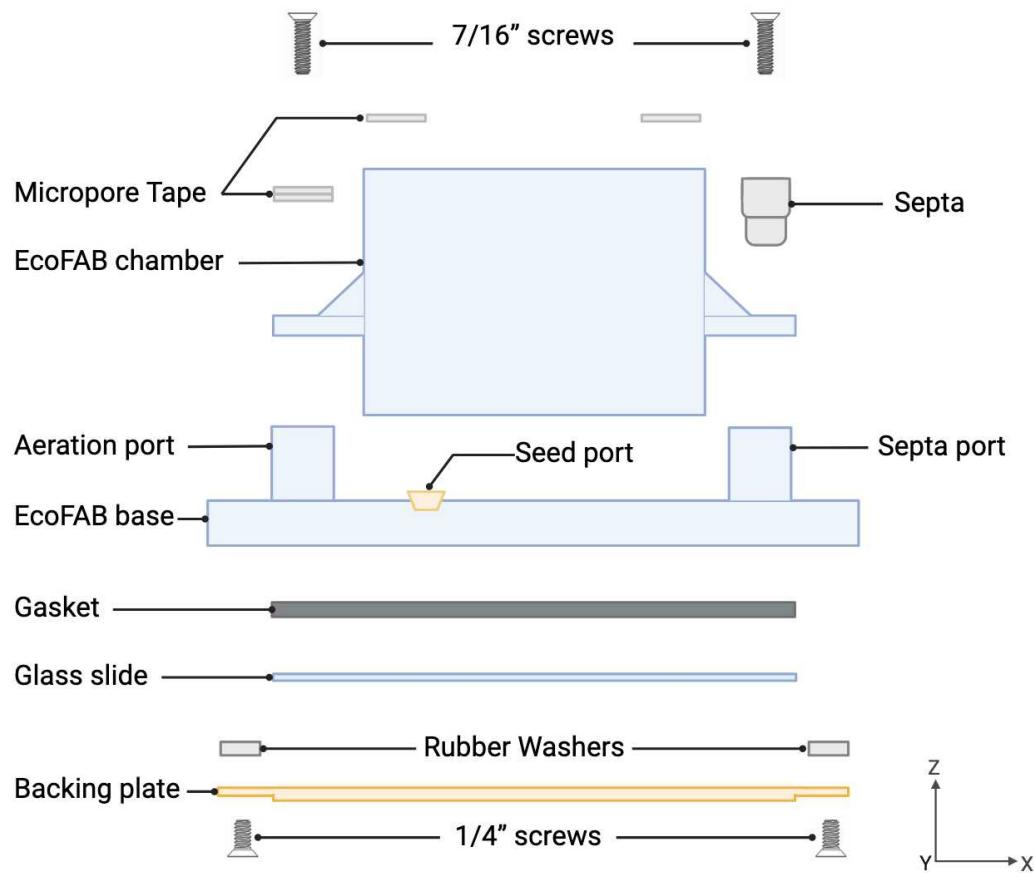

Figure 2: A side view of EcoFAB 2.0 typical assembly with indicated parts.
- **Assemble and sterilize the EcoFAB 2.0:** Follow the EcoFAB 2.0 assembly protocol guidelines and sterilize the devices in individual sterilization pouches (Figure 2, Video 1).